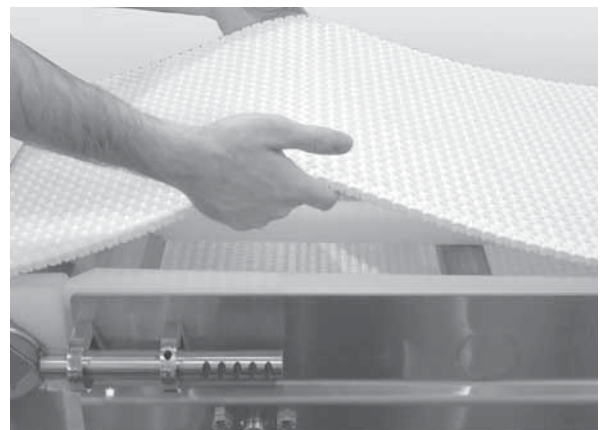

Figure 54
3. Lift up on the belt (Figure 54).